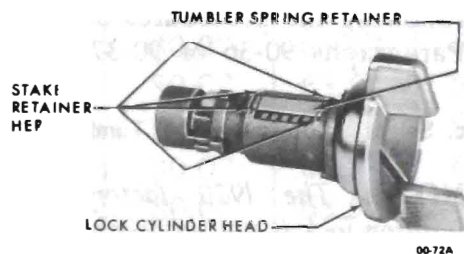

Figure 00-8 - Installing Spring Retainer
3. Reverse the lock cylinder so that the head of the cylinder is now toward you. Insert the spring retainer so that the two end prongs slide into the slots at either end of the cylinder. Press the retainer down. See Figure 00-8.